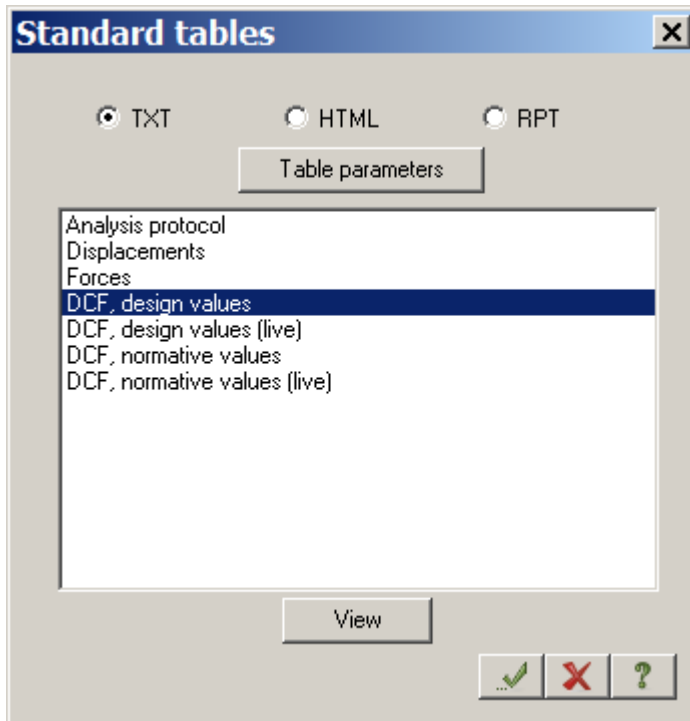

Figure 21.22 **Standard tables** dialog box
- ⇒ In the **Standard tables** dialog box (see Fig.21.22), select **DCF, design values** in the list.